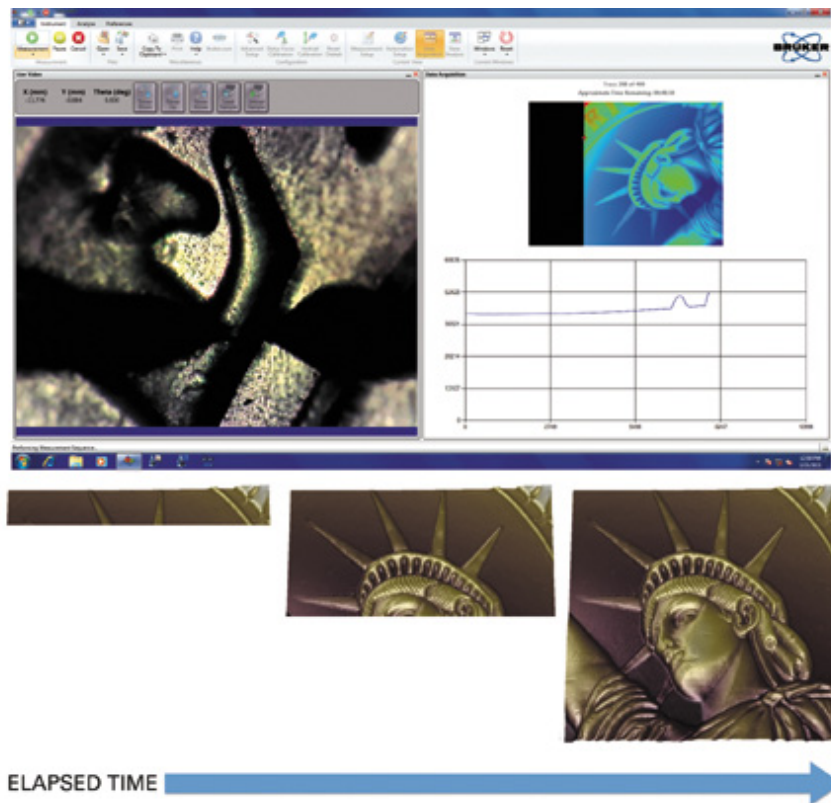
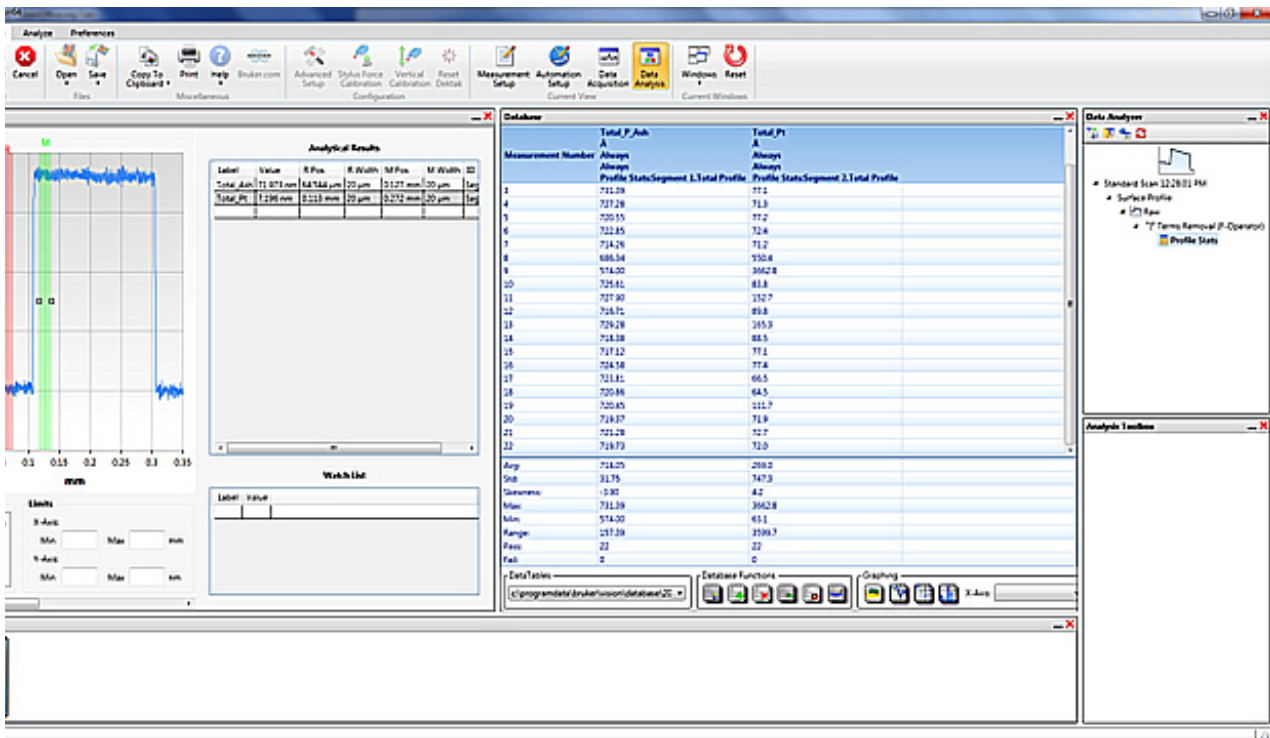

Figure 4-10: Real-Time Picture of the Sample During a Measurement Taken with the 3D Mapping Package
Figure 4-25: Data Analysis Display with an Open Database Window
After the scan measurement is complete, the Data Analysis Display appears (see Figure 4-10). The surface features encountered by the stylus are represented as a two-dimensional profile. To the right, the output display shows a list of the scan parameters along with any user-requested analytical results. If you have created and activated a database, that database appears beside the Data Analysis display (see Figure 4-25).
- Click the **General Preferences** button on the **Preferences**, set **Enable Data Logging** to **True**, and then click **OK**. A database file is now generated for each scan measurement (see Figure 4-25).